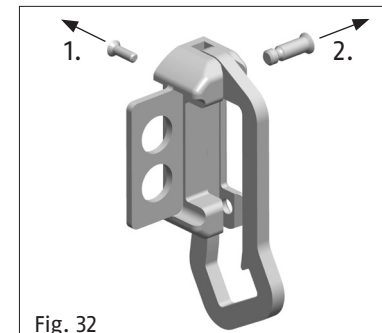
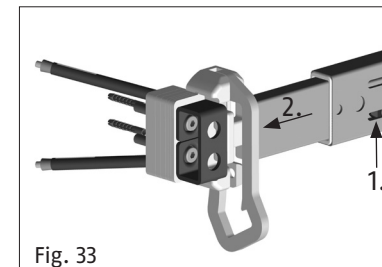

Fig. 32
Fig. 33
2. The casing of the lock is pre-mounted for DIN right opening doors. For DIN left opening doors, the door guard will need to be shifted accordingly (fig 32).
3. Close out locking bolt by turning the key once and pull out the key (set the door guard). Loosen bolt clamping screw 1. (fig. 32) and slide the lock tube until a suitable mounting point for the casing of the lock has been reached. Make sure there is a stable surface for screwing. Balance the folding thickness with mounting plate and set of plastic washers if necessary. For folding thicknesses < 16 mm, we recommend using the lock body support. Mark the lock casing position. Tighten the door bar adjusting screw 1. (fig. 33) when the door bar position has been set.